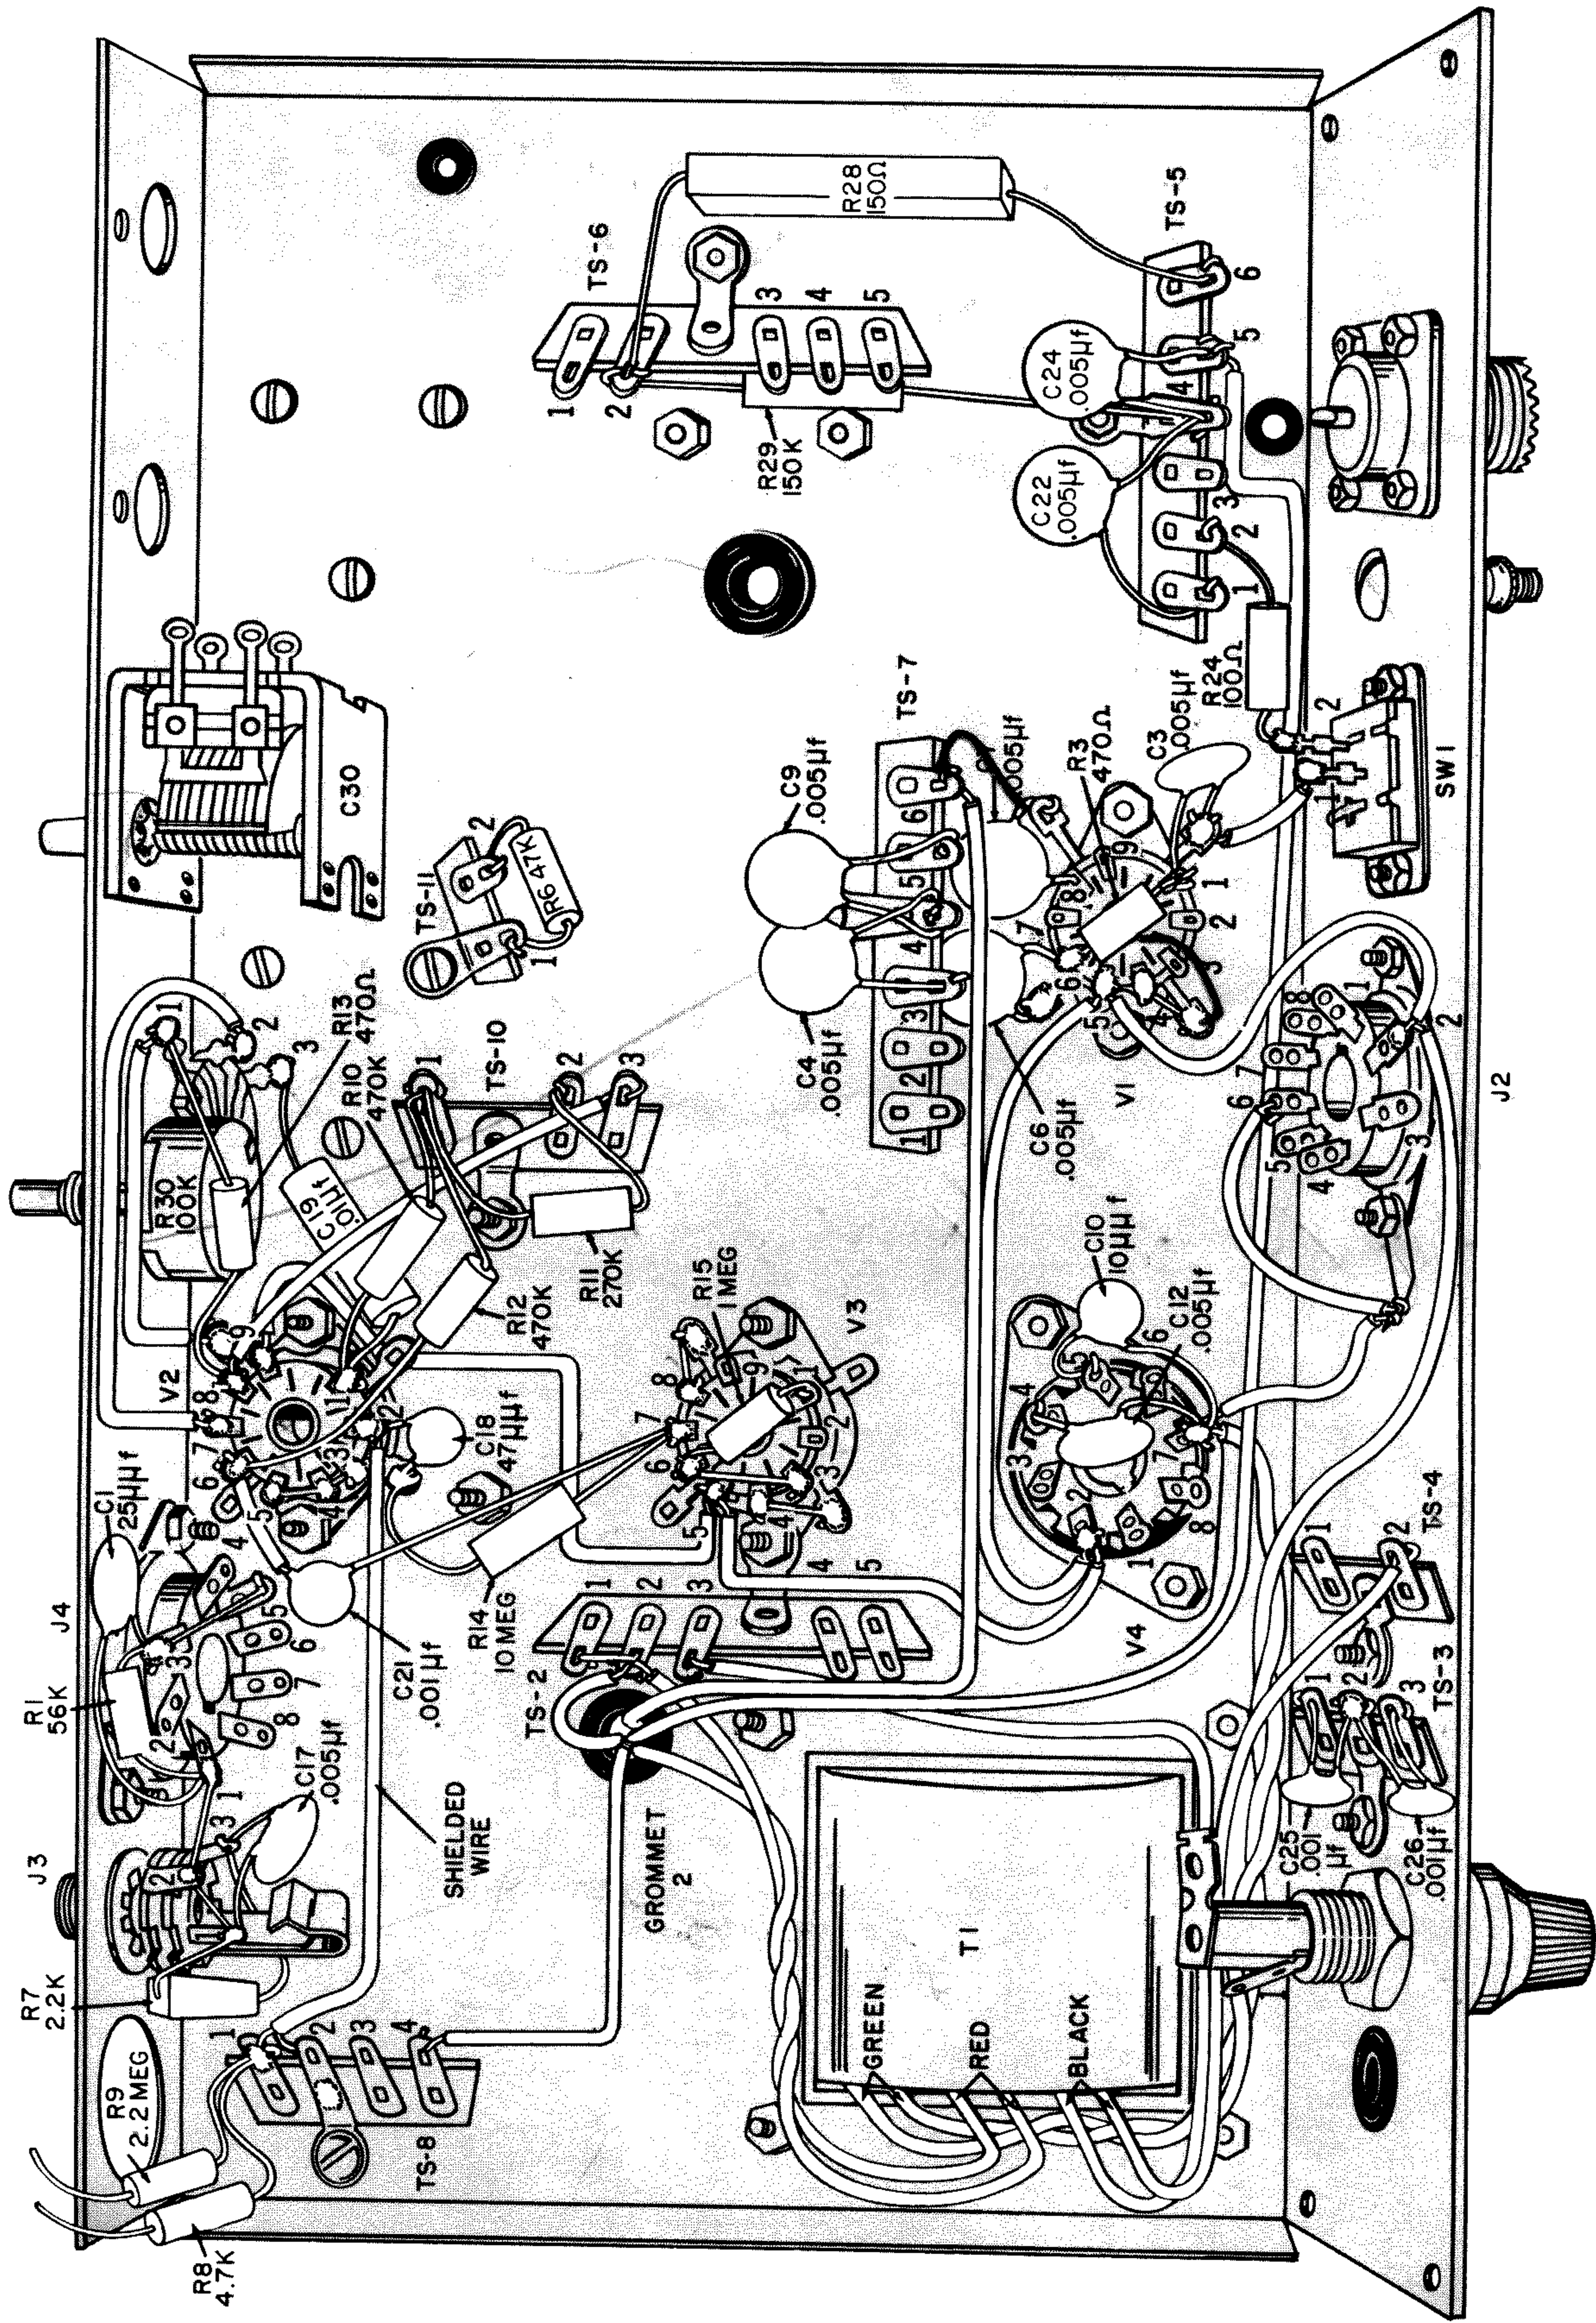

FIGURE 7
SEE FIGURE 7
- ☒ Refer to Figure 7. Note position of wires on power transformer (T1). Twist the two green wires and route them along chassis bottom under the fuse holder, TS-3, and TS-4. Connect one wire to pin 2 of socket J2. Connect the other wire to pin 7 of V4.
- ☒ R28, 150 Ω , 10-watt resistor (square shaped). Connect one lead to terminal 2 of TS-6. Place the resistor body flush against the chassis as shown in Figure 7. Connect the other lead to terminal 6 of TS-5.
- ☒ White wire with blue tracer. Connect one lead to terminal 5 of TS-5. Route the other end along bottom of chassis as shown in Figure 7, over to grommet 2 and through the hole. This wire will be connected later.
☒ Twist together the red leads from power transformer T1 as shown in Figure 7. Connect one lead to terminal 2 of TS-2.
☒ Gray wire. Connect one end to terminal 6 of TS-7. Route as shown in Figure 7, and pass other end through grommet 2. This wire will be connected later.